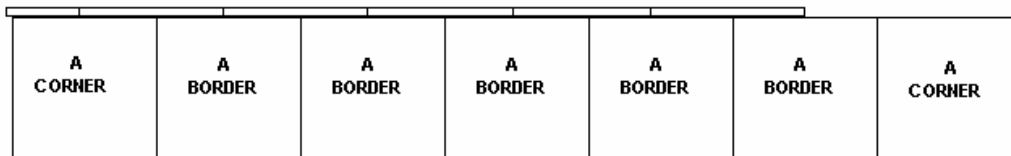

Figure 10
11. Now lock an "A CORNER TOP RIGHT" to the right side of the last "A BORDER TOP"(Figure 10)